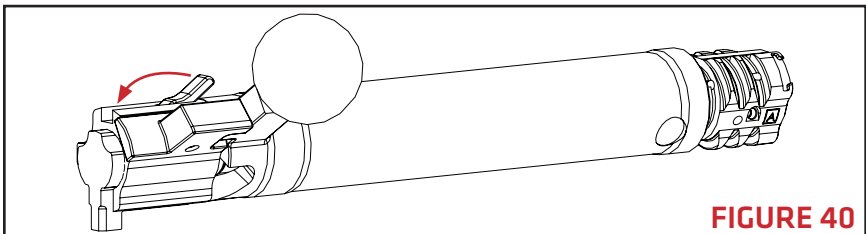

FIGURE 40
4. Rotate the cocking piece lever until it sits flush with the cocking piece shroud (**FIGURE 40**).